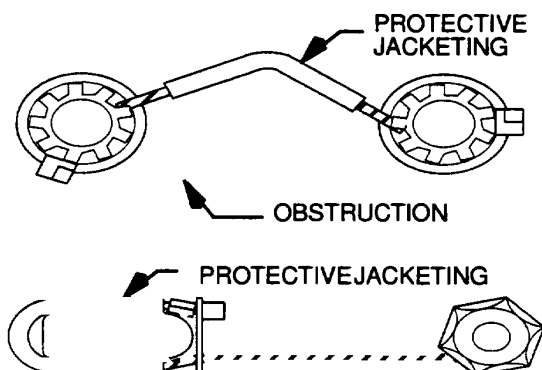

Figure 2-94. Cable jacketing for Protection
h. Safety Cable Jacketing for Protection. (See figure 2-94). It is recommended to use a tubular jacket over safety cable when it is installed in a location where it is in contact with (or may contact) surfaces which may damage the safety cable. A tubular jacket material shall be capable of meeting the temperature range of the application, it shall be resistant to oil and chemicals.